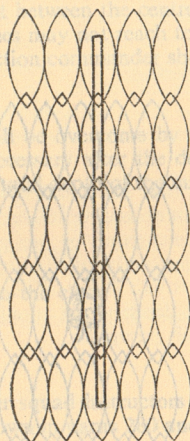

Fig 5
- The section commander will indicate the limits of the target and order, "Half way up, right and left, two clicks, lay". (See Fig 5.)